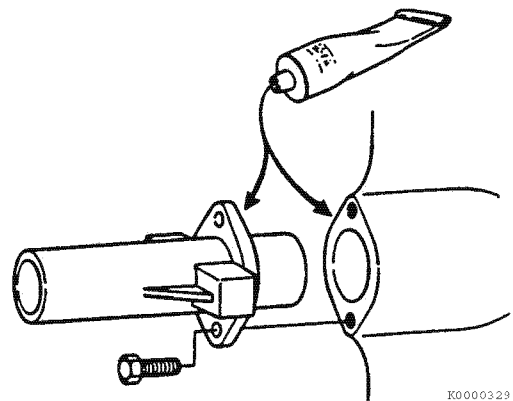

Figure 5-23
- Apply an appropriate sealing agent, insert the propeller shaft and secure with bolts (**Figure 5-23**). Avoid damaging the rubber or metal with the threaded parts.